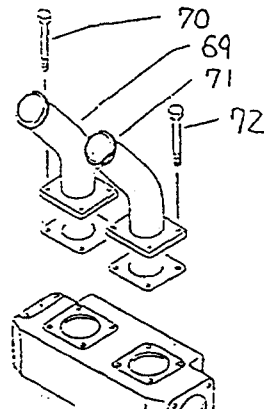

Fig. 45
- ⑬ Change of engine water outlet connector on WA800A-2 (Fig. 45)